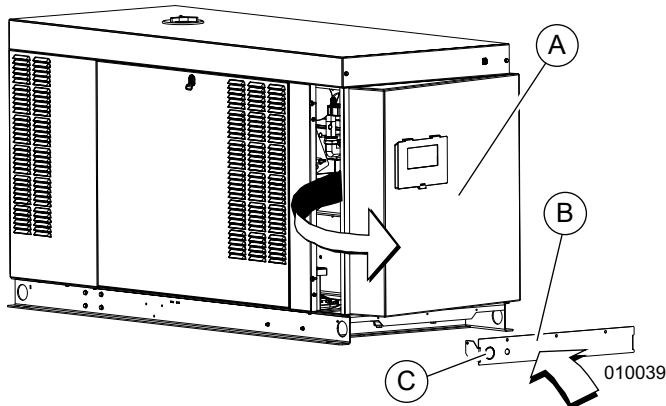

Figure 5-2. Remove Rear Panel and Stub-Up Cover
1. See Figure 5-2. Remove six screws with nylon washers to release rear panel (A) from enclosure. For best results, rotate left side of panel outward away from enclosure before disengaging right side.
NOTE: See Figure 5-2. Remove knockout plug and route accessory wiring to customer supplied weather-proof junction box. Verify wires do not contact moving or vibrating engine parts, as abraded wires can result in electrical problems.